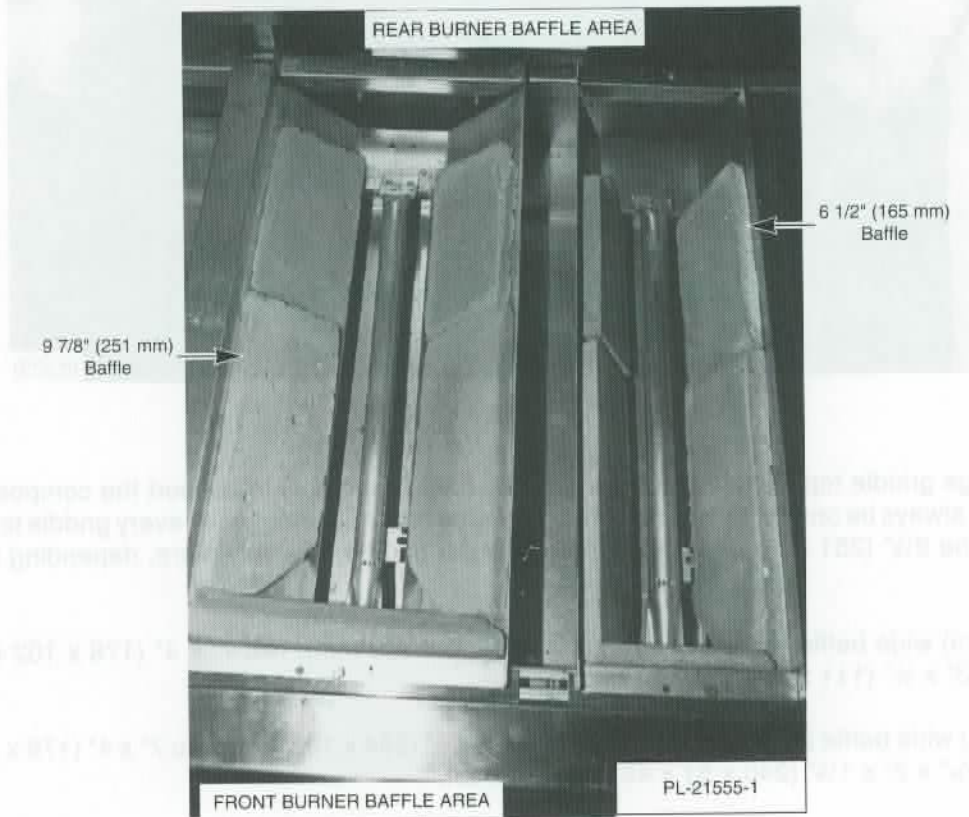

Fig. 4
- a. Two 10" x 4" (254 x 102 mm) bricks with the mitre edge on each side of the front burner baffle area (Fig. 4).
- b. Two 7" x 4" (178 x 102 mm) bricks on each side of the rear burner baffle area (Fig. 4).
- c. The rectangular 4³/₈" x 3" x 1/2" (111 x 76 x 13 mm) brick across the baffle burner area front (Fig. 4).
- c. The rectangular 9⁷/₁₆" x 2" x 1⁷/₈" (240 x 51 x 48 mm) brick across the baffle burner area front (Fig. 4).
3. Install two 10" x 4" (254 x 102 mm) composite/mortar bricks with the mitre edge on each side of the front burner baffle area (see Fig. 4).
4. Install two 7" x 4" (178 x 102 mm) bricks on each side of rear burner baffle area (see Fig. 4).
5. Install the triangular 9⁷/₁₆" x 2" x 1⁷/₈" (240 x 51 x 48 mm) brick across the baffle burner area front (see Fig. 4).